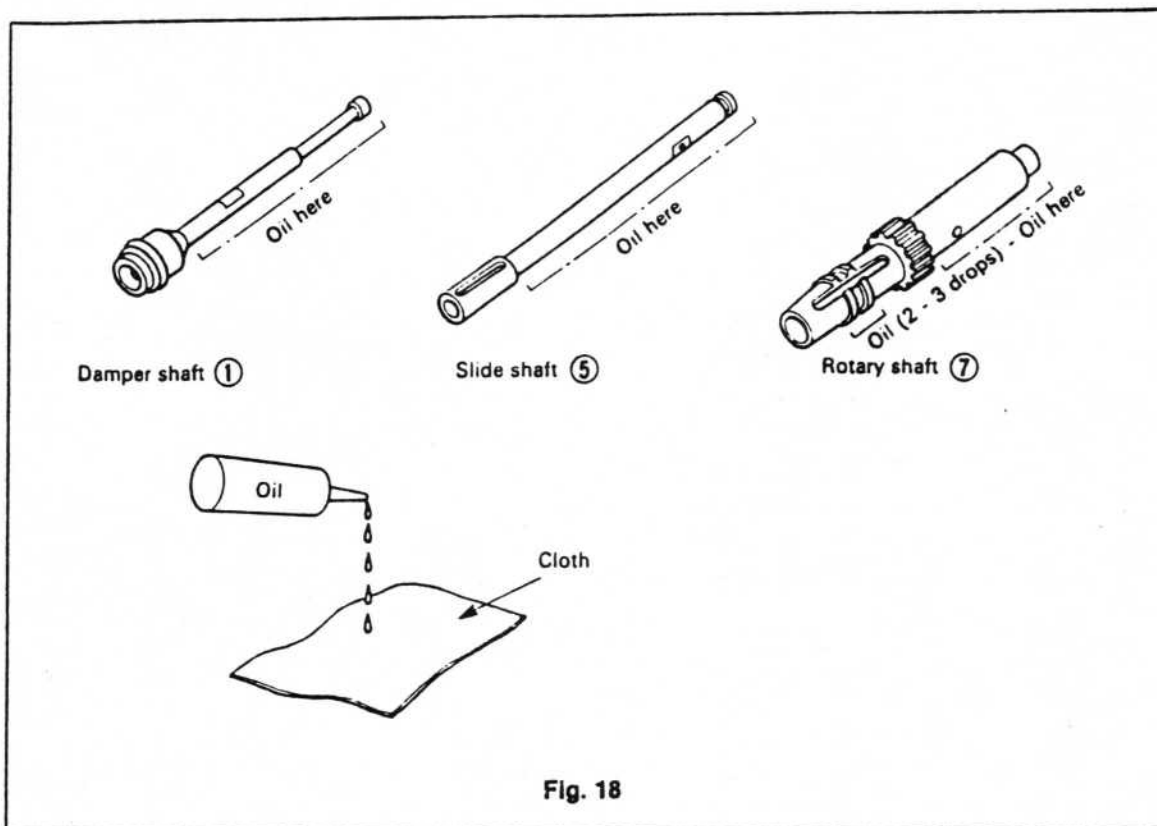

Fig. 18
Rotary shaft (7) — Apply silicon oil as shown in Fig. 18 (see 4. Type of oil) to a cloth and wipe the areas marked.
- (2) Place 2 - 3 drops of silicon oil in the groove of the rotary shaft (7).
- (3) When the above have been finished, reassemble the parts in order.
- (4) Put silicon oil on the contact surface of the R spring pawl (12) and head SP bracket.